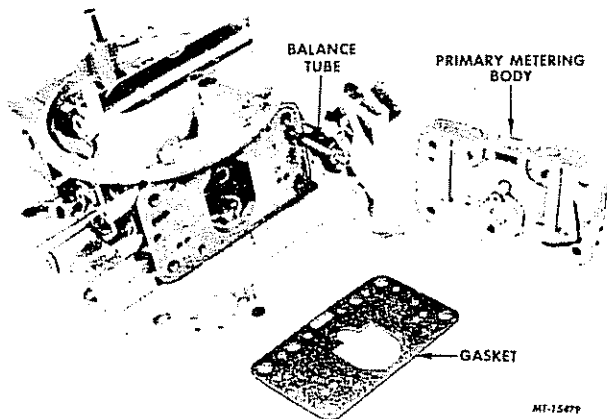

FIG. 27 — REMOVING OR INSTALLING PRIMARY METERING BODY (WITH PUMP TRANSFER TUBE)
1. If metering body and bowl gaskets were not installed previously under No. 4, describing assembly primary metering body (also secondary on model 4150), do so now. Press gaskets down firmly on dowels, not only to hold them in place but to prevent bowl gasket from interfering with the float (Figs. 27 and 29).
5. Install a new O-ring on the extreme end of each end of fuel transfer tube. Apply petroleum jelly lightly on O-ring and install transfer tube into opening in primary fuel bowl. The O-ring will roll into proper position as tube is installed (Fig. 27).